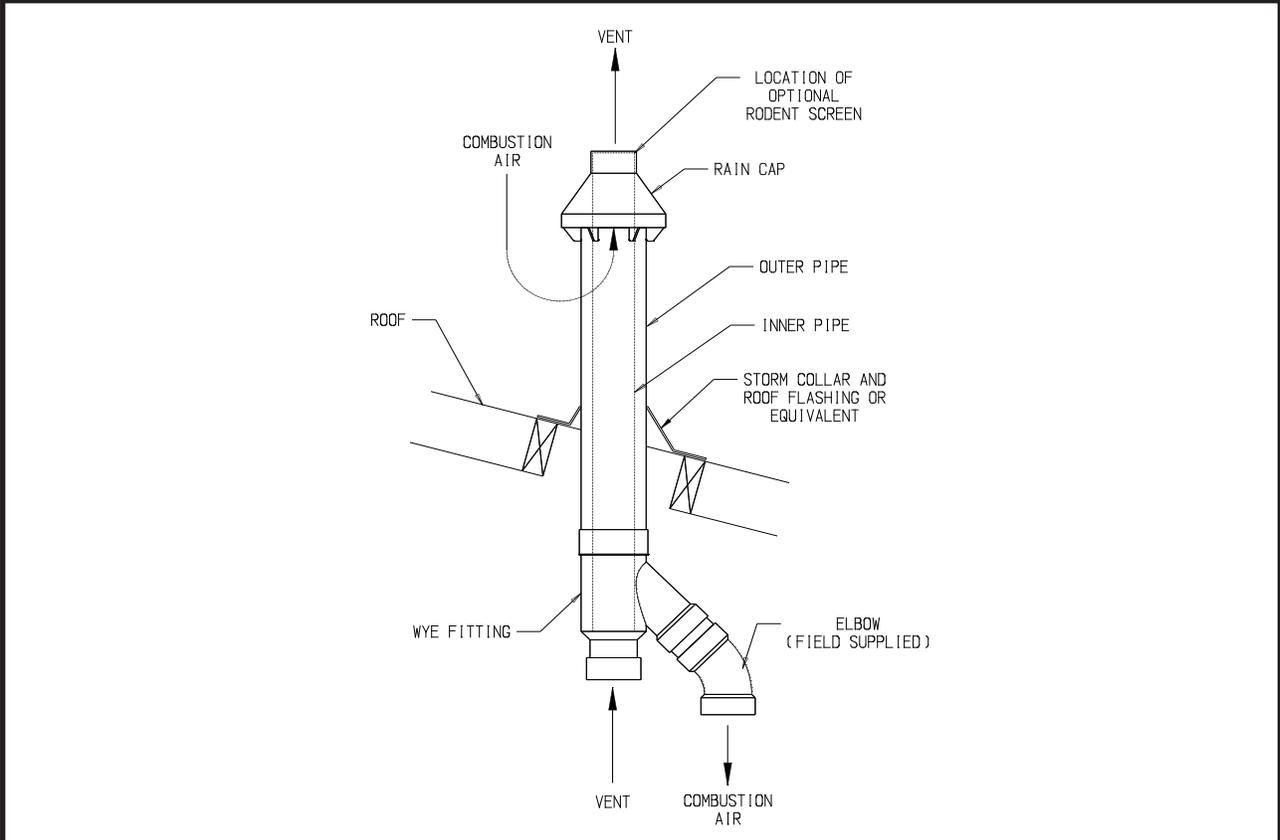

FIGURE 1.22: INSTALLATION OF OPTIONAL CONCENTRIC TERMINAL THROUGH ROOF
- f. Cement the inner pipe to the Wye, being careful, to keep the opposite end centered inside the outer pipe. Cement the rain cap onto the inner pipe. If desired, the rain cap can be attached to the inner pipe with a field supplied stainless steel screw so that it can be later removed for cleaning and inspection. If this is done, drill a clearance hole in the rain cap and a tap hole in the inner pipe to accept this screw. A 1/2” mesh field supplied rodent screen may also be installed between the rain cap and the inner pipe (Figure 1.22)